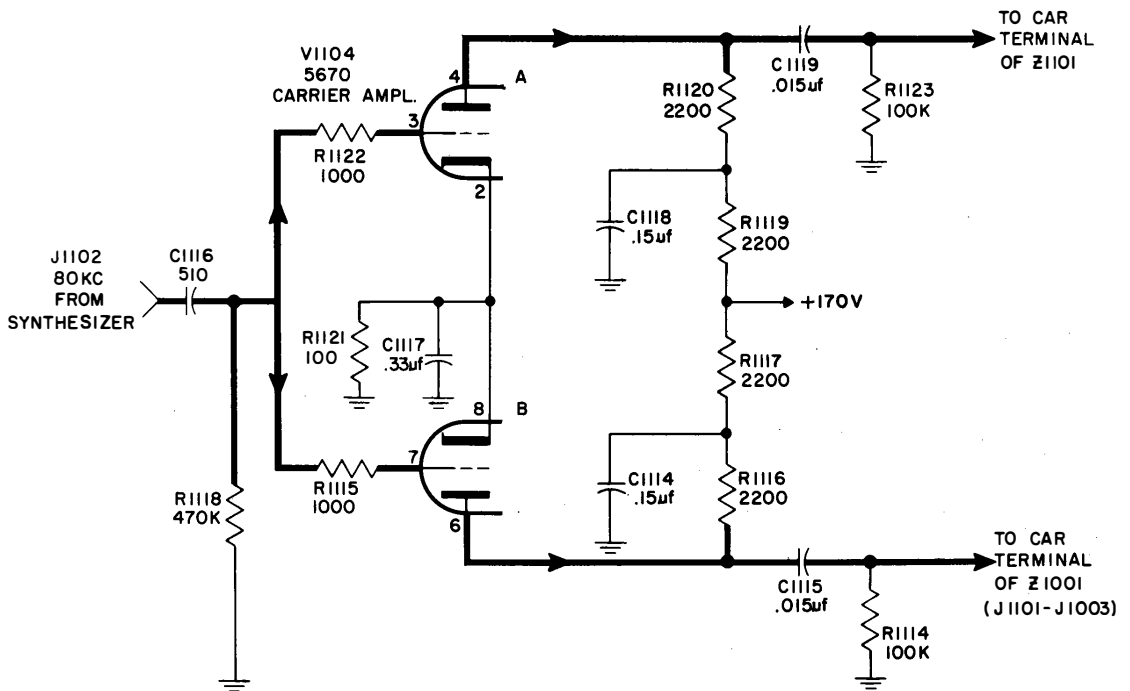

Figure 4-33. Carrier Amplifier V1104, Simplified Schematic Diagram
*d. CARRIER AMPLIFIER V1104.* (See figure 4-33.)—Carrier Amplifier V1104 is a dual-triode tube, the paralleled grids of which receive their 80 kc input from the synthesizer section via J1102 and C1116. The amplified output of triode A is developed across plate load resistor R1120 and applied via capacitor C1119 to CAR terminal of balanced ring demodulator Z1101 of the LSB detector-amplifier. The amplified output of triode B is developed across plate load resistor R1116 and applied to balanced-ring demodulator Z1001 of the USB detector-amplifier by way of coupling capacitor C1115 and connectors J1101 and J1003.